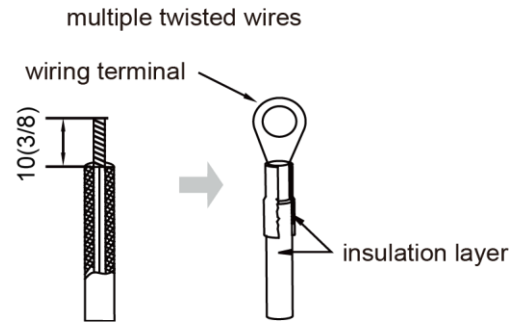

Fig. 5.1.2
(2) The connection of stranded wire (as shown in fig. 5.1.2)